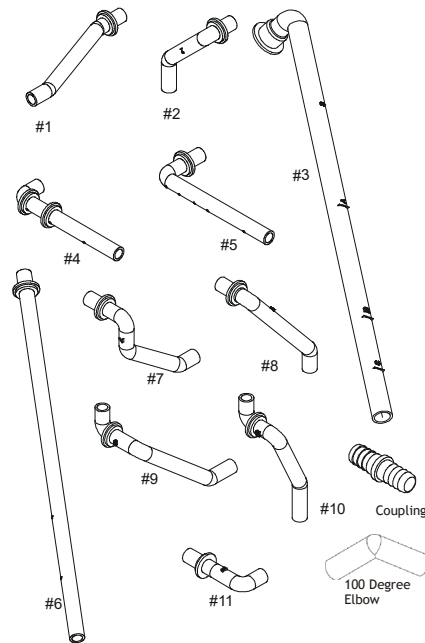

FIGURE 23
1. Locate and Install the 45° pipe / hose drain coupling from the outside of the cabinet (barbed end goes in the cabinet) through hole in the right side of the cabinet and secure with two field supplied #8 self-tapping screws (see Figure 23).
1. Install the 45 degree pipe / hose drain coupling from the outside of the cabinet (barbed end goes in the cabinet) through the hole in the left side of the cabinet and secure with two field supplied #8 self-tapping screws (see Figure 23).